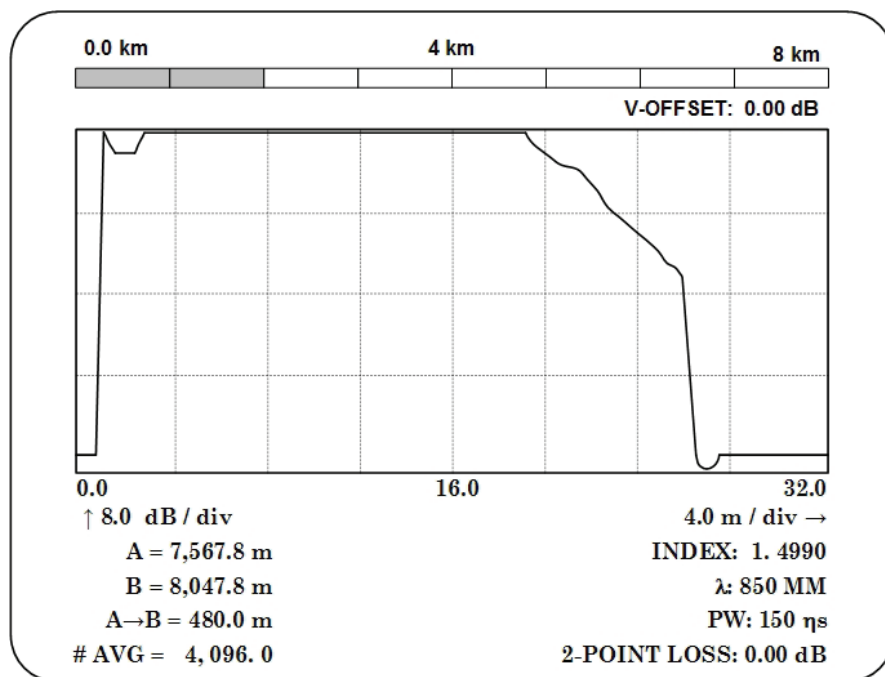

Figure 9. Example of expanded dead zone pulse - (TD-260C).
(17) Press **HOR EXP** pushbutton to expand display to view dead zone pulse (fig. 9).